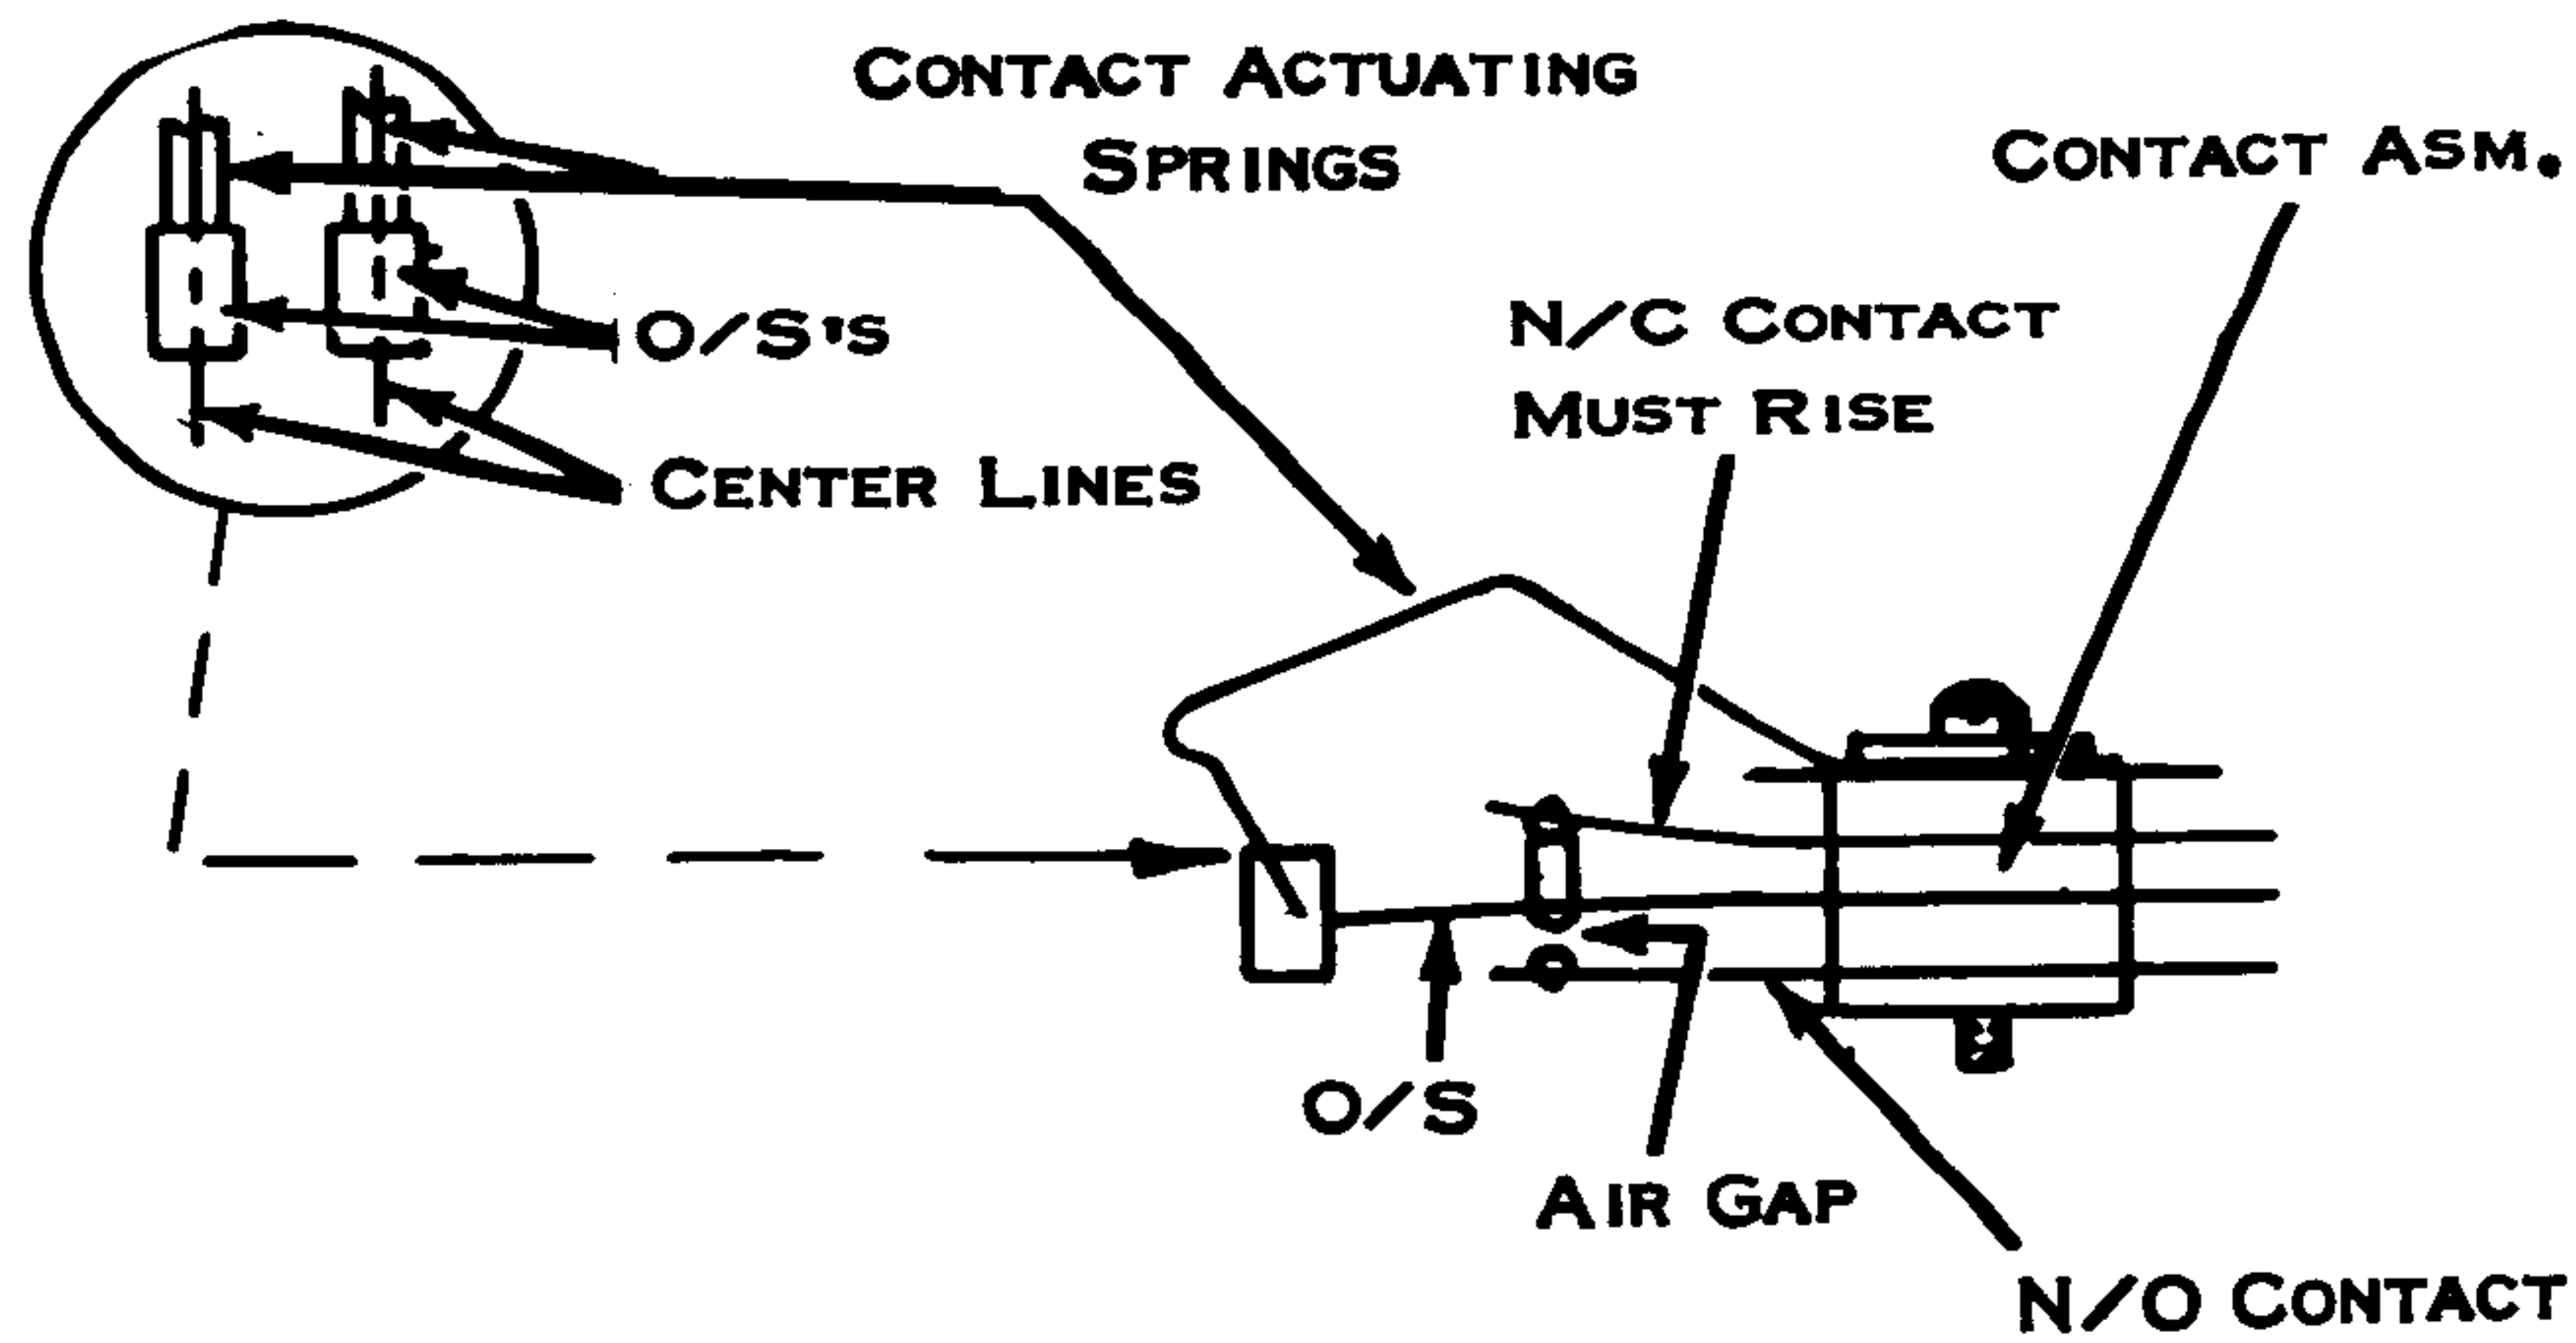

Figure 38. Contact Position & Air Gap
2. Contact Position (Fig. 38) -